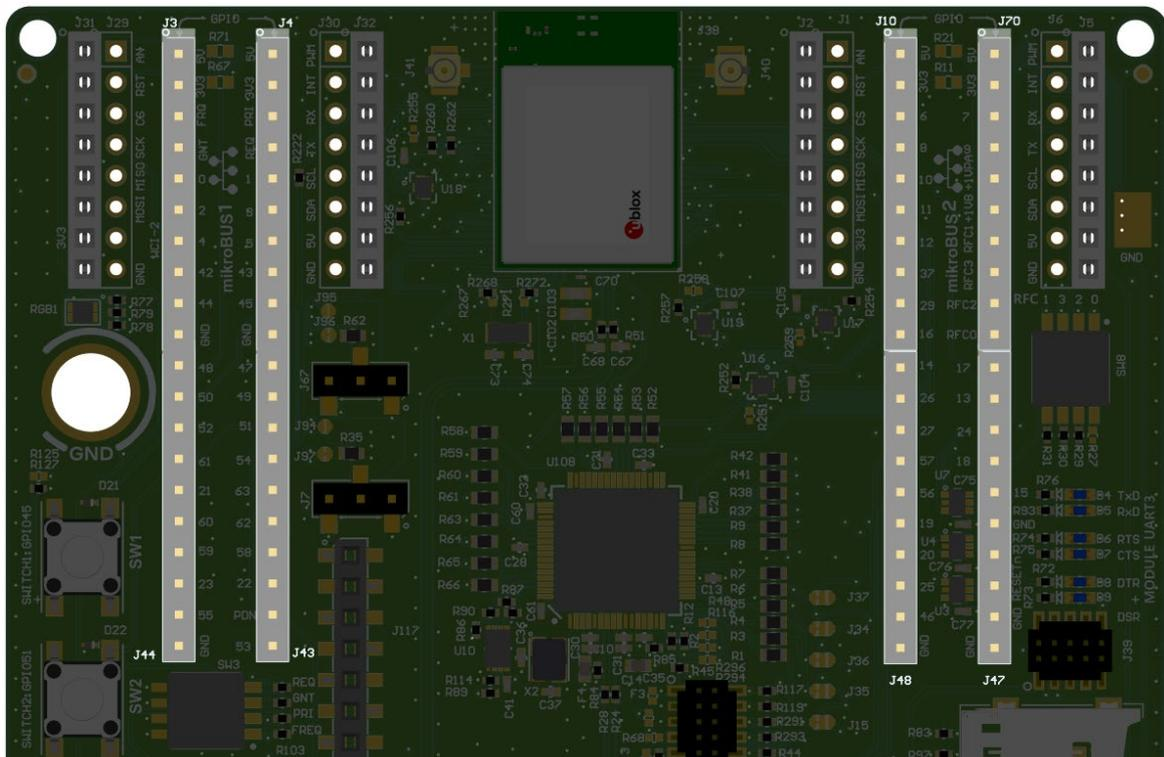

Figure 39: Pin headers
All GPIOs on IRIS-W10, except PSRAM-related GPIOs, are accessible on through-hole (TH) pin headers **J3**, **J4**, **J10**, **J43**, **J44**, **J47**, **J48**, and **J70**, as shown in Figure 39.